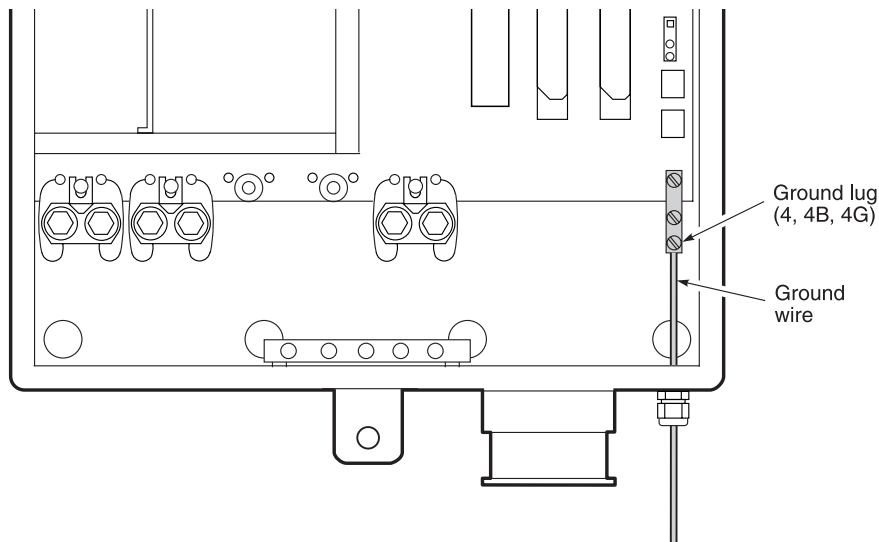

Figure 9. *Installing the Ground Wire (List 4, 4B, and 4G)*
For Lists 4, 4B and 4G refer to Figure 9.
- 2 For Lists 4, 4B, and 4G, connect one end of the chassis ground wire to the grounding lug (see Figure 9).